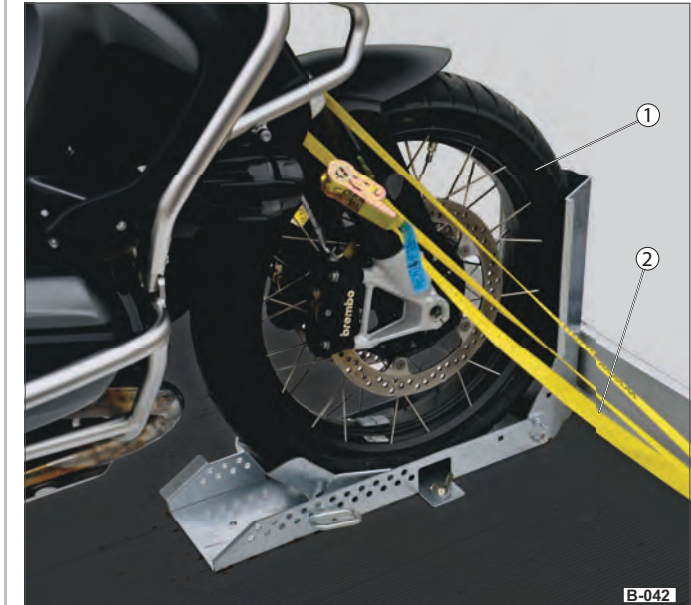

Fig. 38 Example: Motorcycle positioned in motorcycle stand
- ▶ Push the front wheel (Fig. 38 /1) of the motorcycle until it reaches the end stop in the motorcycle stand.
- ▶ Tie down the motorcycle securely - use suitable lashing equipment (Fig. 38 /2).